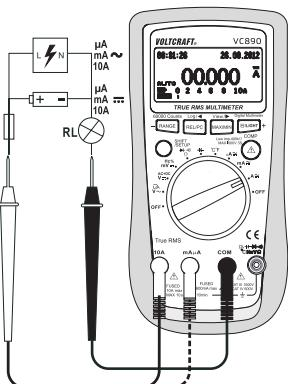

Fig. 3
3. Insert the red test lead in the m μ A or 10A measuring socket (5, 6). Insert the black test lead in the COM measuring socket (8) (Fig. 3).